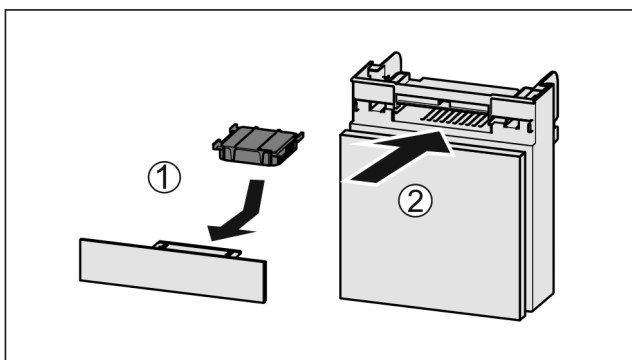

Fig. 142
- ▶ Insert the carbon filter as shown in the diagram Fig. 142 (1).
- ▶ Push the compartment in Fig. 142 (2).